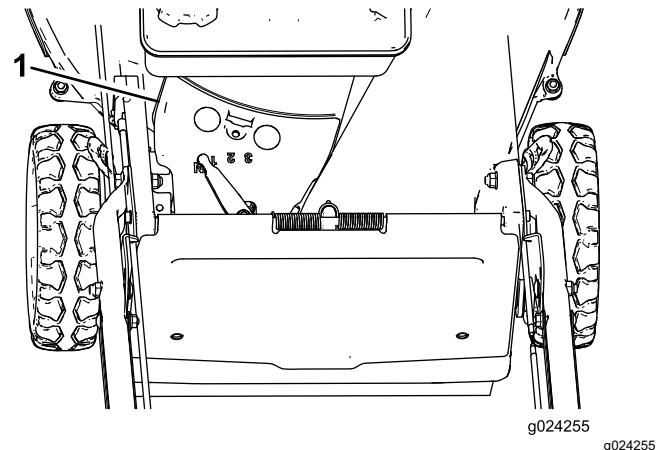

Figure 31
3. Remove the belt cover (Figure 31) from the mower housing.